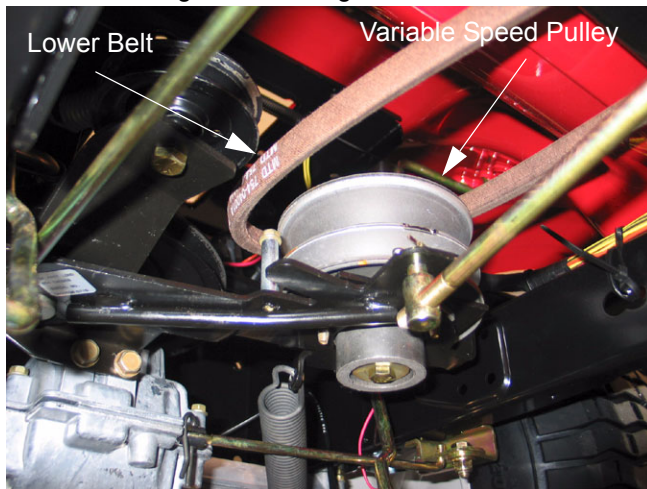

Figure 33
- 8.6. Raise the middle sheave of the variable speed pulley to allow raising the lower drive belt around the belt guard. See Figure 33.